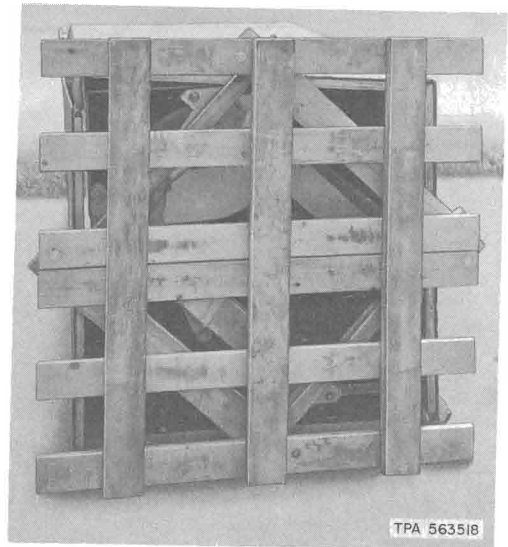
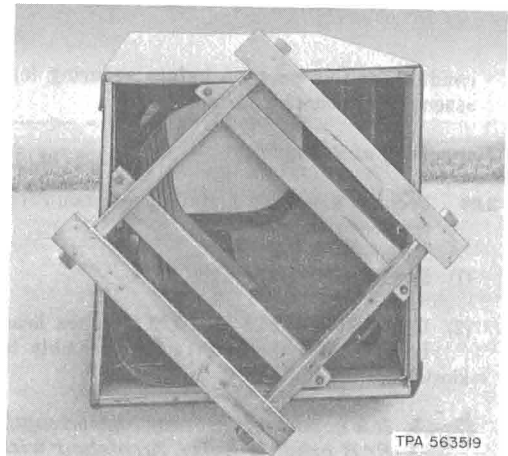

Fig. 17—Kiosk in Horizontal Position
Fig. 18—Bottom Portion of Skid Removed
- (2) Before removing any packing material, lay kiosk down with marking "**FRONT OF KIOSK**" facing up (Fig. 17).
- (3) The bottom skid is in two parts. Remove hardware (Fig.17) and detach bottom part of skid (Fig. 18).